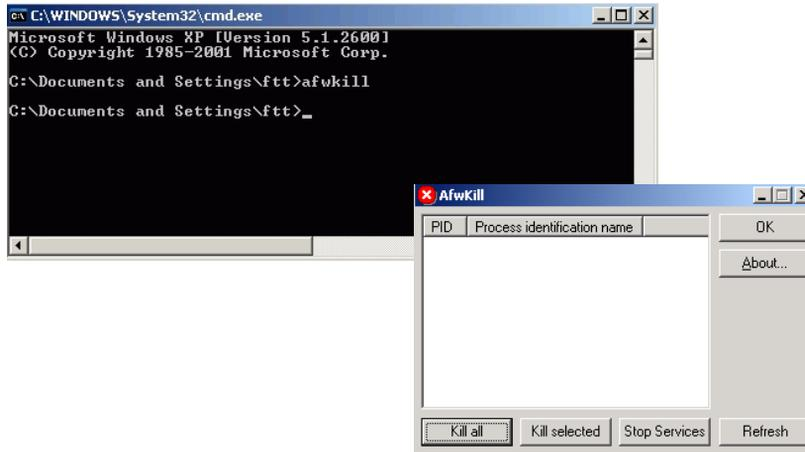

Figure 52. Running the afwkill Utility
- b. Use the afwkill utility (Figure 52) to make sure all processes related to the 800xA System are stopped. From the Windows Taskbar select: